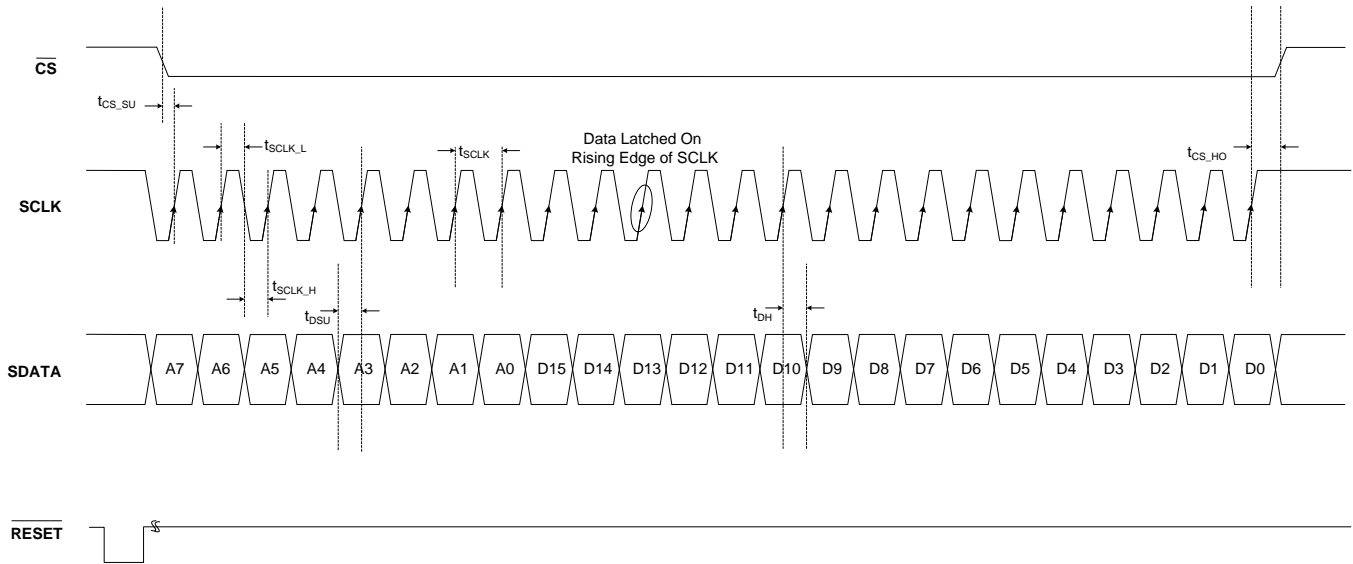
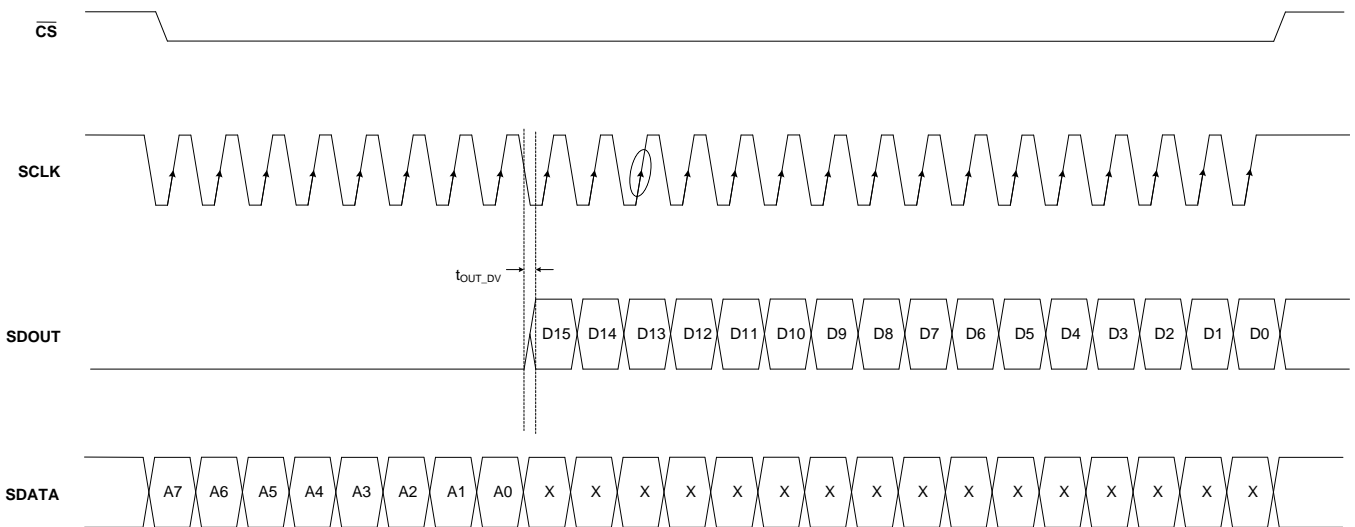

Figure 74. Serial Interface Write Timing Diagram
Figure 76. Serial Interface Read Timing Diagram
1. Either through a hardware reset by applying a low pulse on the  $\overline{RESET}$  pin (of widths greater than 50 ns), as shown in Figure 74; or
Table 7. Timing Characteristics for Figure 74 and Figure 76(1)
(1) Typical values are at TA = +25°C, minimum and maximum values are across the full temperature range of TMIN = -40°C to TMAX = +85°C, unless otherwise noted.
(2) See Figure 76
To exit serial readout mode, reset the EN\_READOUT register bit to '0', which enables writes to all device registers. At this point, the SDOUT pin is in 3-state. A detailed timing diagram for the serial readout mode is shown in Figure 76.